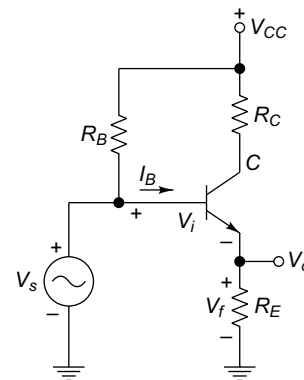

Fig. 2.52
7. Figure 2.52 shows the feedback amplifier circuit. What is the type of feedback used in this circuit?